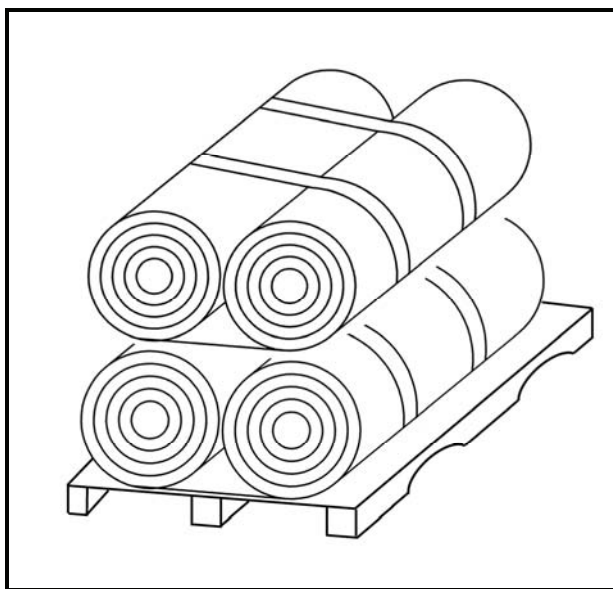

Figure 4. Cross-section view of an IPDS Collapsible Fuel Tank Crate #1 of 1 Crate.
1. Position the packaged tank (Figure 4) on an approved site near the point of installation.